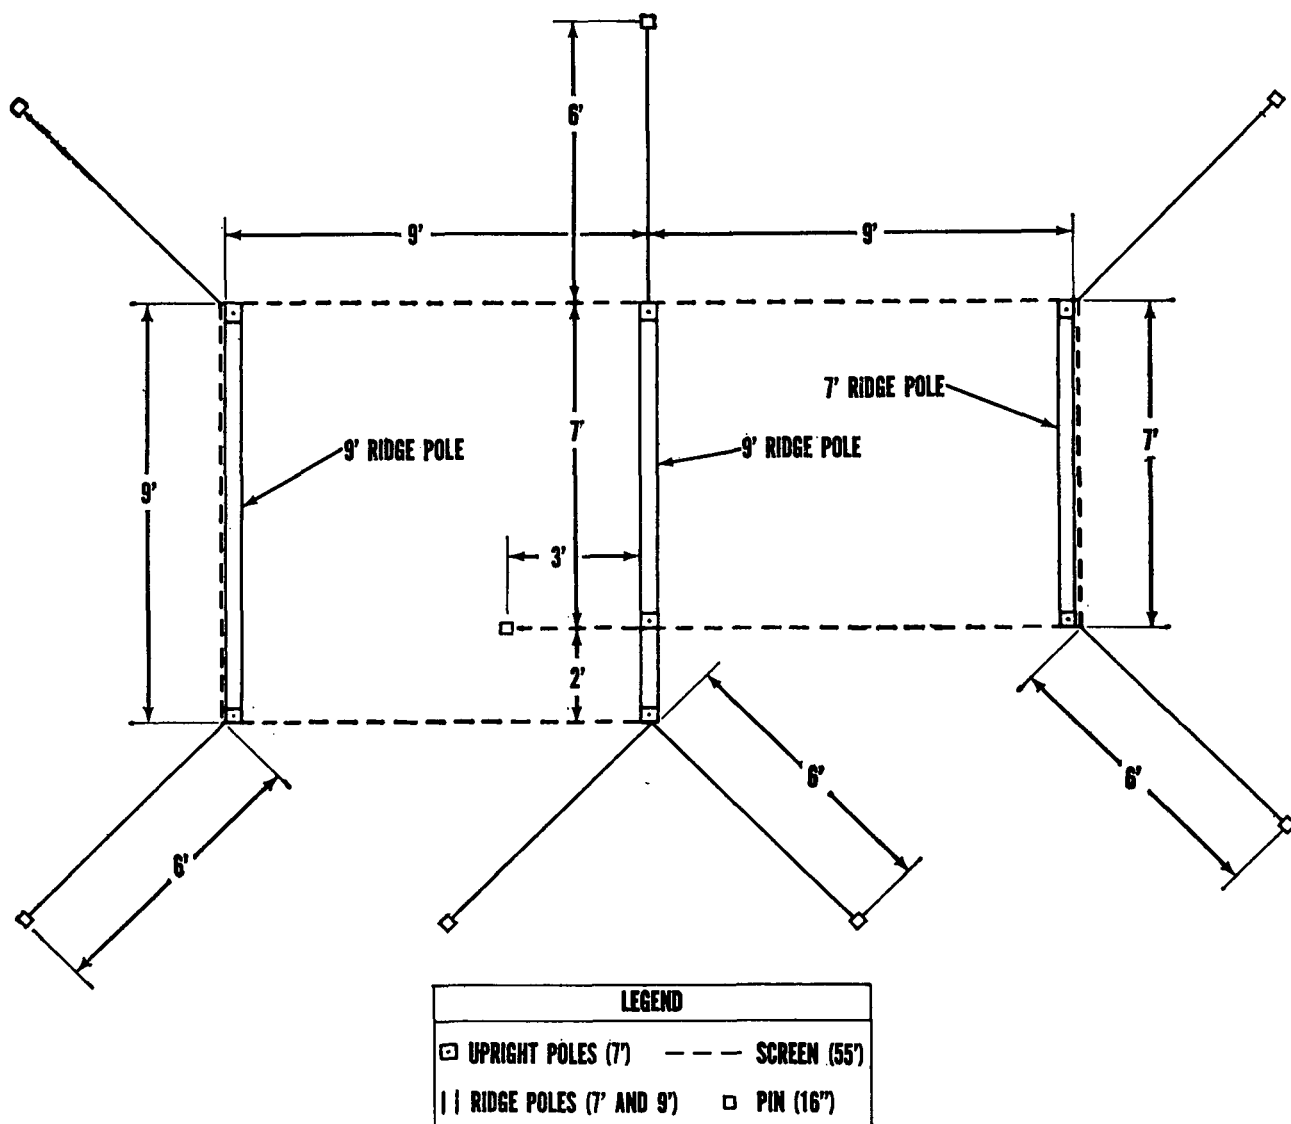

Figure 104. Ground plan of screen, latrine.
- (2) *Floorspace.* The floorspace of the screen, when erected, is approximately 144 square feet.
- (3) *Material.* The screen is made of 9.68-ounce duck.
c. Ground Plan. Before pitching screen, study the ground plan carefully (fig. 104).